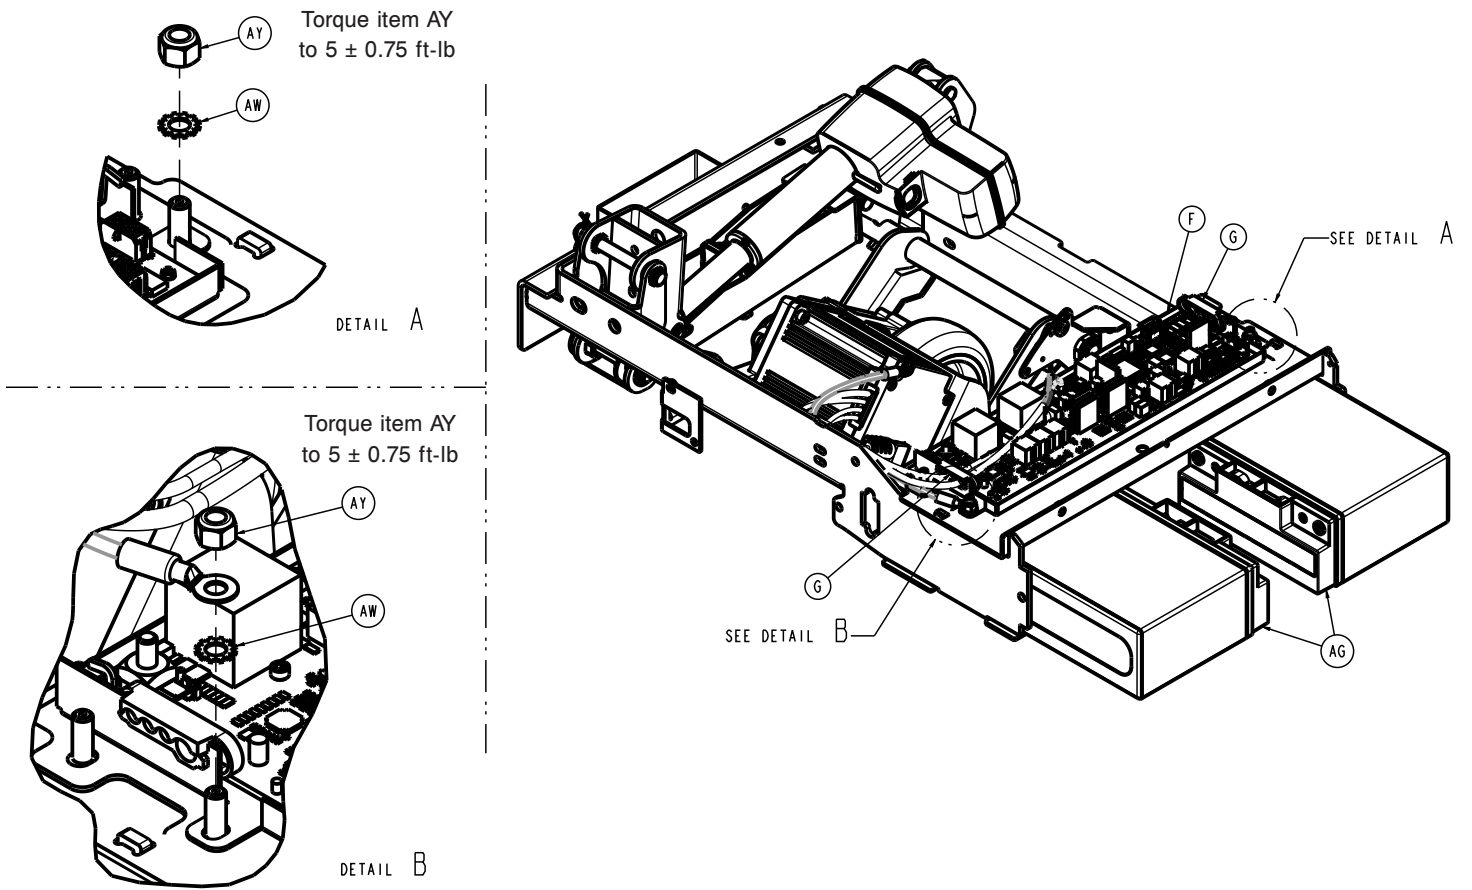

Figure 46 – Removing the batteries
10. Remove the batteries (AG) (Figure 46).
- 16. Unclip the cable retainer (G) (Figure 46).
- 17. Using a ratchet and 7/16” socket, remove the nut (AY) that secures the ground wire to the frame weldment (Figure 46). Save the nut.
18. Using a ratchet and 7/16" socket, remove the nut (AY) that secures the motor power wire to the **Zoom** control (F) (Figure 46). Save the nut.
19. Disconnect the motor communication cable from the **Zoom** control (F) (Figure 46).
10. Unclip the cable retainer (G) (Figure 46).
11. Using a ratchet and 7/16" socket, remove the nut (AY) that secures the foot end ground wire to the frame weldment (Figure 46). Save the nut.
12. Using a ratchet and 7/16" socket, remove the nut (AY) that secures the motor power wires (U, V, W) to the **Zoom** control board (F) and unclip from the cable retainer (G) (Figure 46). Save the nut.
13. Disconnect the motor communication cable from the **Zoom** control board (F) and unclip from the cable retainer (G) (Figure 46).
14. Using a ratchet and 7/16" socket, remove the nut (AY) that secures the head end ground wire to the frame weldment (Figure 46). Save the nut.
15. Disconnect the five cable connections on the head end of the **Zoom** control board (F) and unclip from the cable retainer (G) (Figure 46).